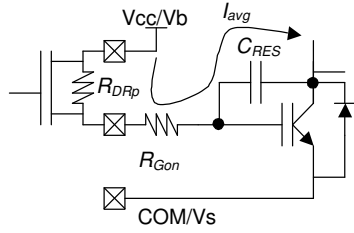

Figure 21:  $R_{Gon}$  Sizing
**Switching-Time:** For the matters of the calculation included hereafter, the switching time  $t_{sw}$  is defined as the time spent to reach the end of the plateau voltage (a total  $Q_{gc} + Q_{ge}$  has been provided to the IGBT gate). To obtain the desired switching time the gate resistance can be sized starting from  $Q_{ge}$  and  $Q_{gc}$ ,  $V_{CC}$ ,  $V_{ge}^*$  (see Fig. 21):